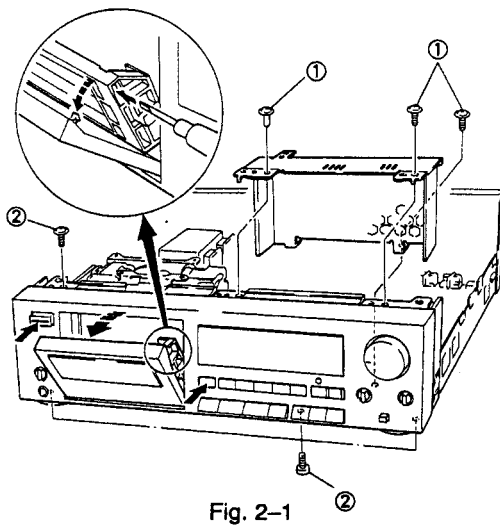

Fig. 2-1
2. Remove the three screws ① and take out the FL shield plate. (Fig. 2-1)
3. Remove the upper screw ② and lower three screws ②, then take out the front panel. (Fig. 2-1)
4. Turn the power ON. (Fig. 2-1)
5. Open the cassette door by pressing the open/close button. (Fig. 2-1)
6. Remove the cassette cover and cassette door by pressing the two claws. (Fig. 2-1)